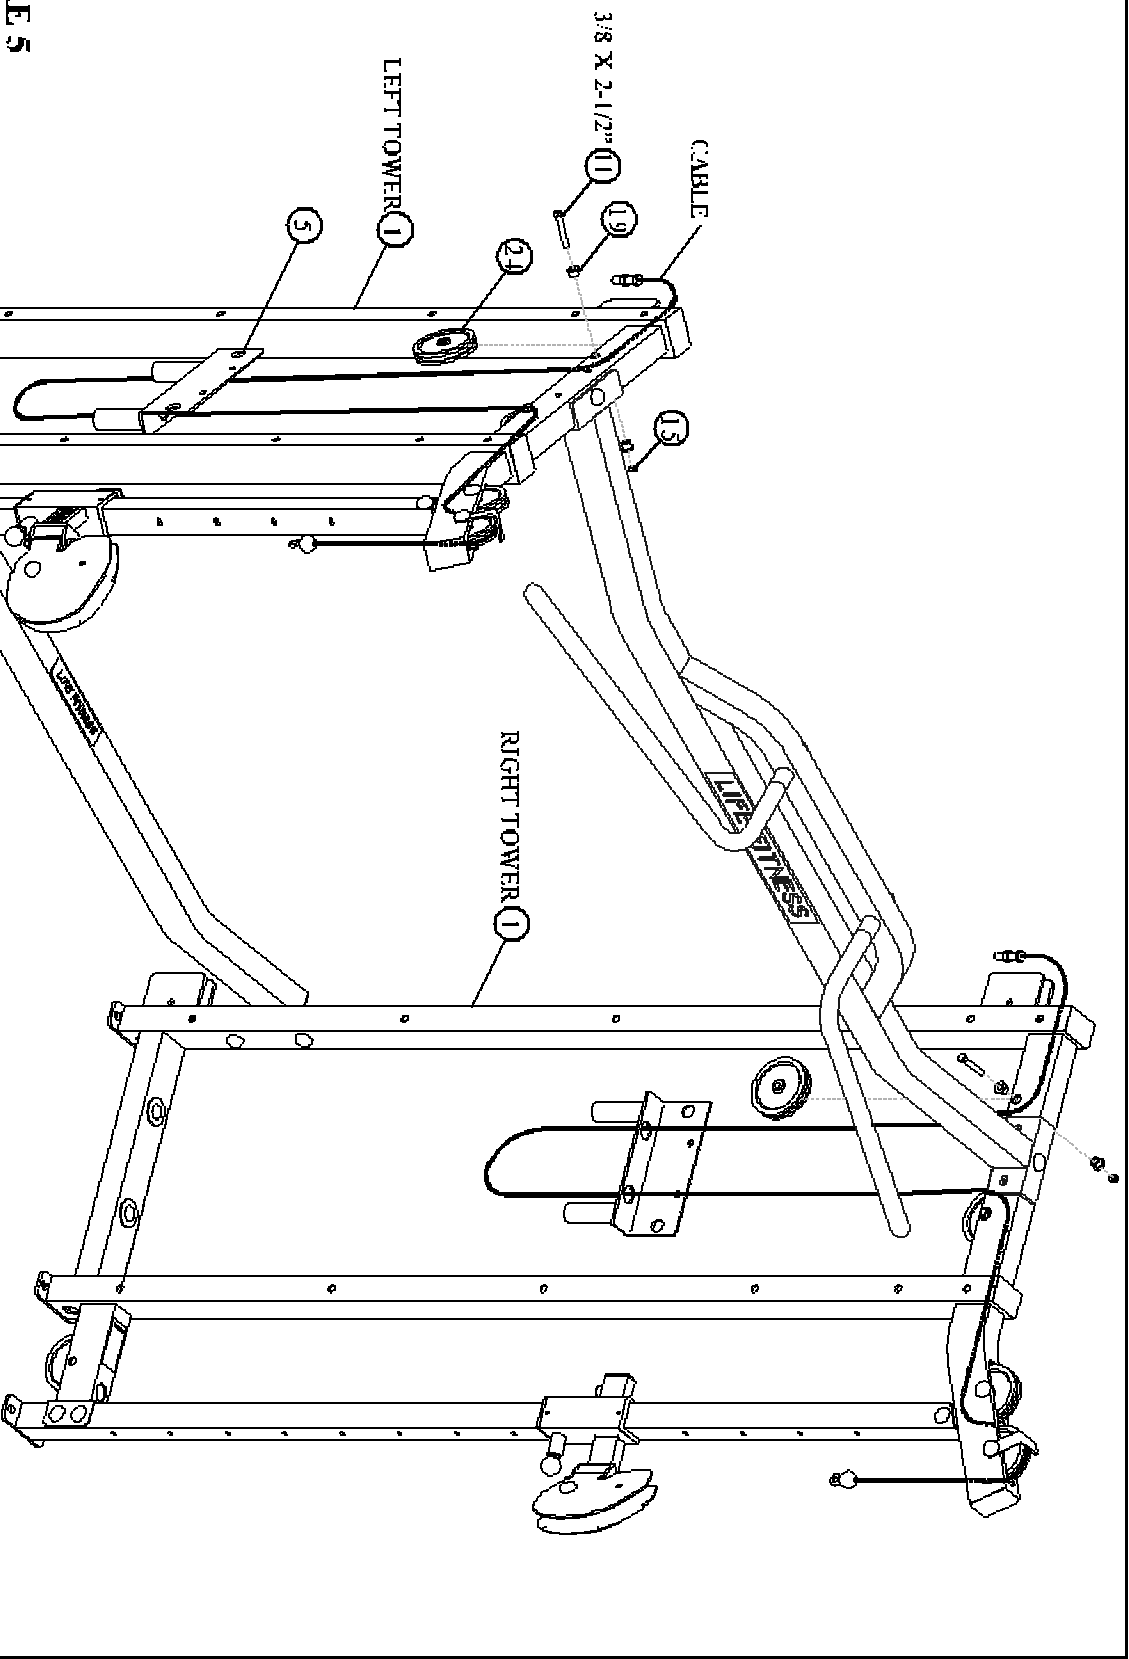

FIGURE 5
- Route the threaded end of CABLE through the GUIDE ROD SUPPORT (5) and through the LEFT TOWER (1) as shown in FIGURE 5.
- **SECURELY** assemble one 4-1/2" PULLEY (24) to the TOWER (1) using one 3/8 X 2-1/2" BOLT (11), two 3/8" FLANGE SPACERS (19), and one 3/8" LOW HEIGHT LOCK NUT (15) as shown in FIGURE 5.
- Repeat these steps to assemble the 4-1/2" PULLEY (24) and the GUIDE ROD SUPPORT (5) to the RIGHT TOWER (1). (NOTE: The GUIDE ROD SUPPORT (5) is assembled to the RIGHT TOWER (1) in the opposing direction of the LEFT TOWER (1). See FIGURE 5.)